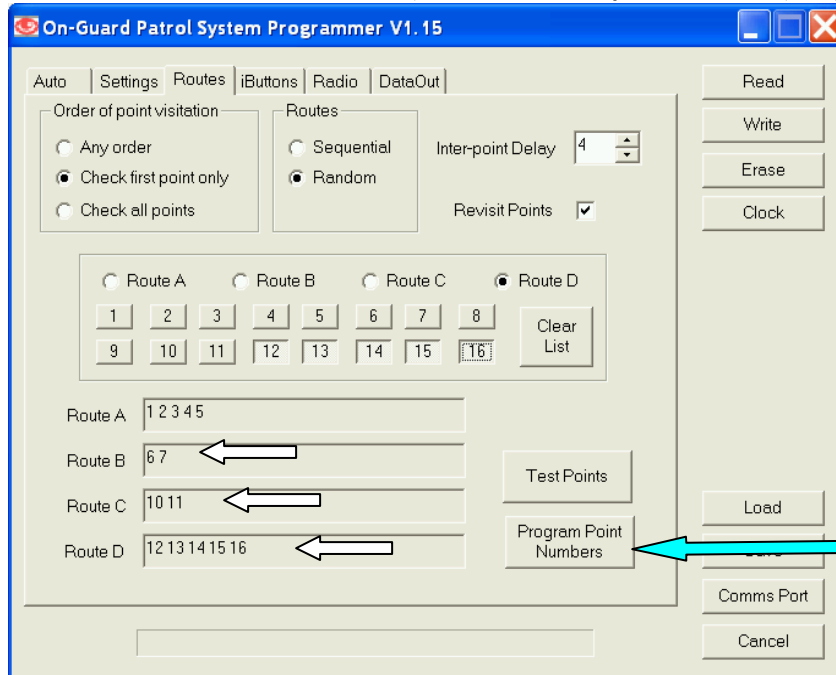

Fig 14
Next, Add Routes B, C & D (See the example beneath) Fig 14.
2. Press the button labeled “Program Point Numbers” - Fig 14 above.